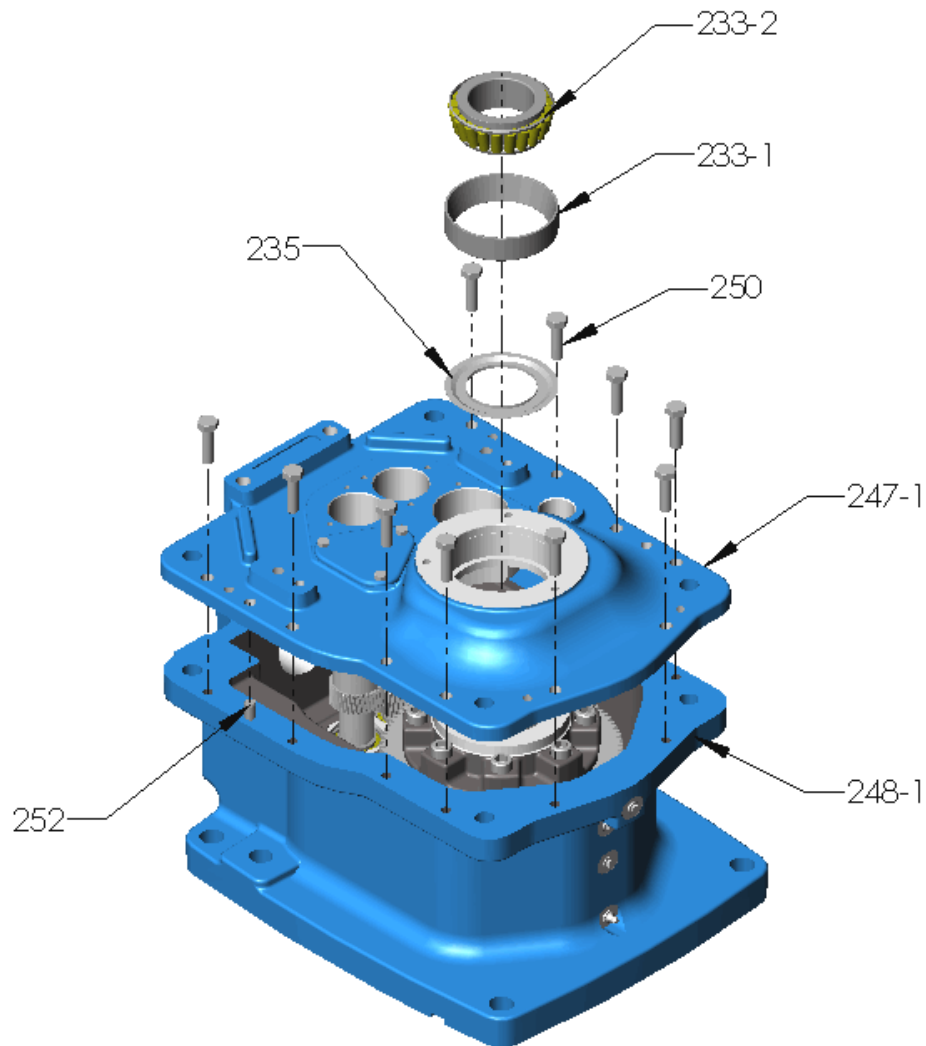

Figure 20 – Case Lid
- P. Install case lid **[247-1]** (refer Figure 20).
- (1) Apply Three Bond Sealant 1215AA or equivalent to case bottom flange.
- (2) Put case lid **[247-1]** on case bottom.
- (3) Install dowel pins **[252]**.
- (4) Install bolts **[250]** and torque-tighten to value given in Table 1.
- Q. Install at output shaft (refer Figure 20):